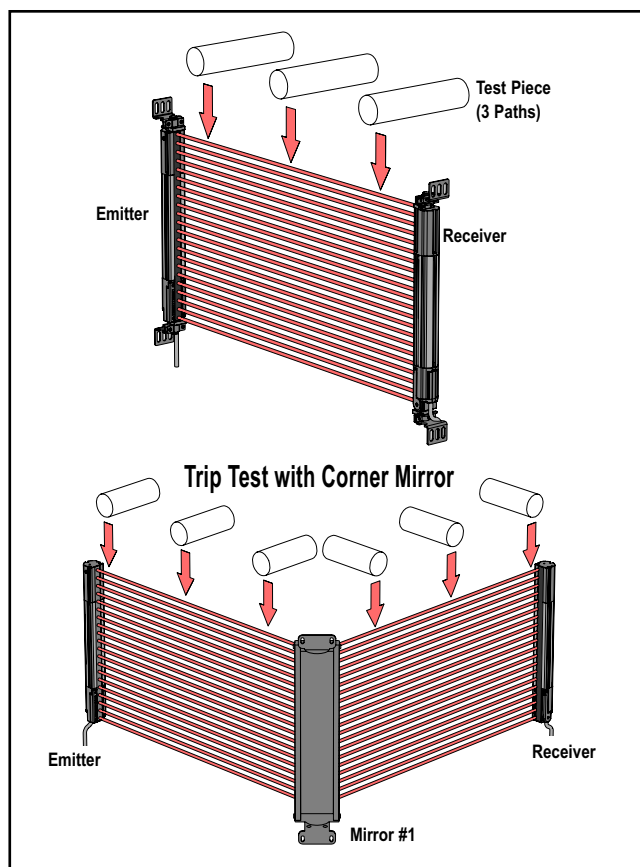

Figure 3-18. EZ-SCREEN LP trip test
- Pass the specified test piece through the defined area in three paths: near the emitter, near the receiver, and midway between the emitter and receiver (Figure 3-18).
If mirrors are used in the application: Test the defined area on each leg of the sensing path (e.g. emitter to mirror, between mirror and receiver, see Figure 3-18).